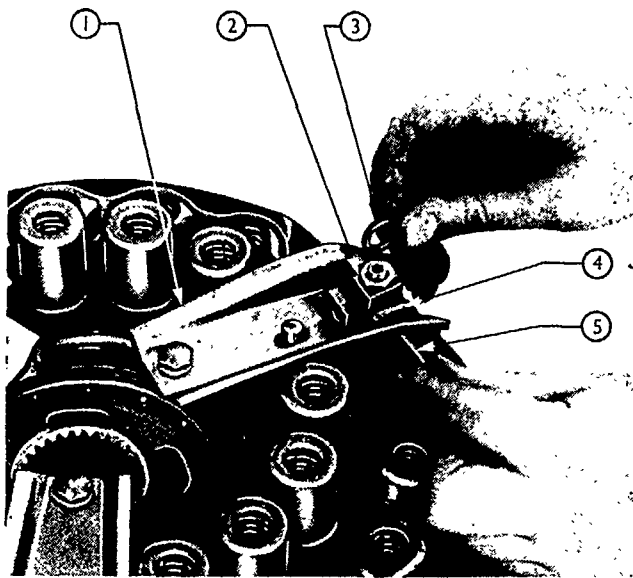

Figure 52
6. Remove one of the cotter pins from each release lever strut and withdraw the strut from the other side, Figure 52, then remove the release levers and spacers.
11. Install the release levers, locating each lever over one of the connecting link assemblies. Position two spacers between each connecting link assembly and the inside of the corresponding release lever (one spacer each side of the link assembly), Figure 52. Insert a release lever strut through the holes in each release lever, spacer and connecting link assembly. Retain with new cotter pins on each end of the strut.